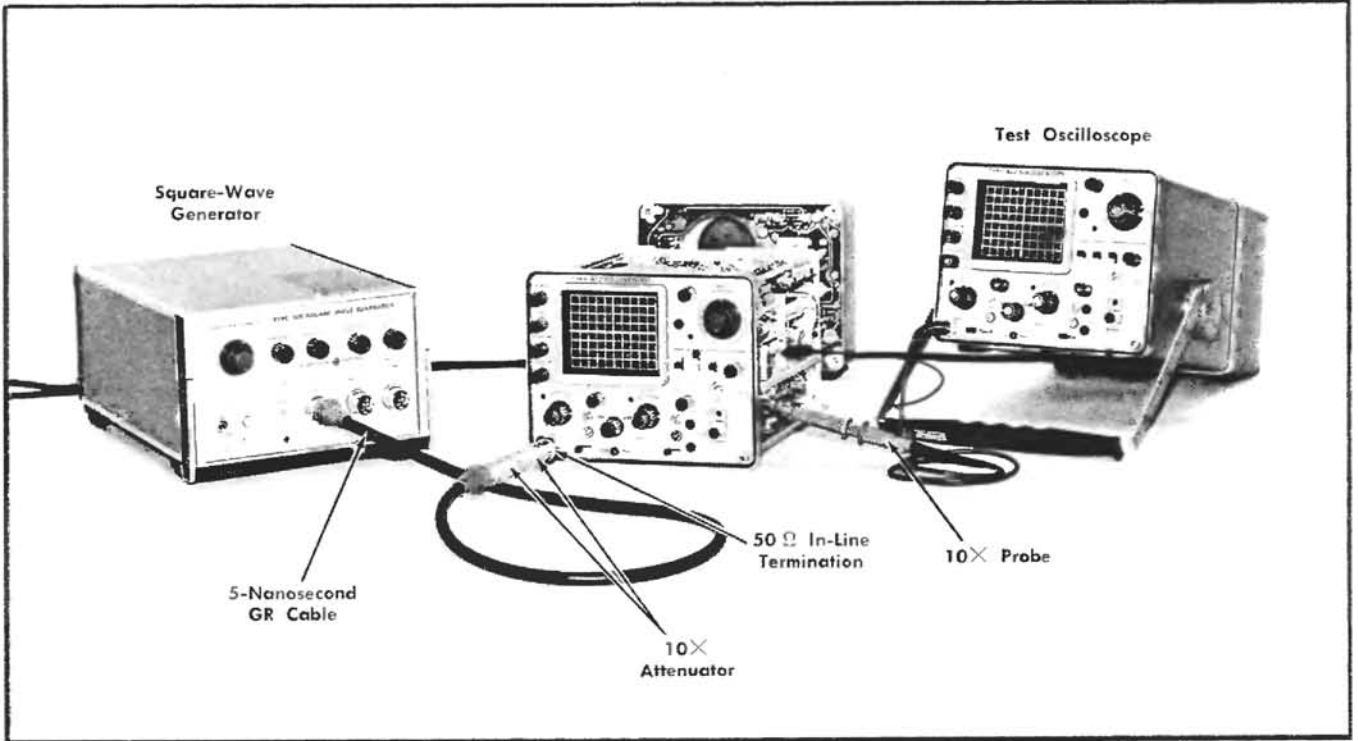

Fig. 6-33. Initial test equipment setup for steps 30—33.
- a. Test equipment setup is shown in Fig. 6-33.